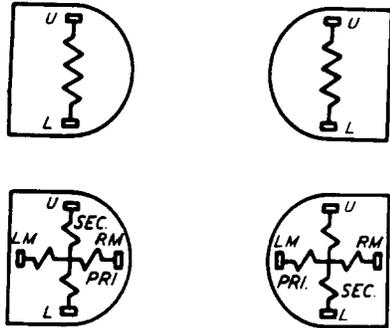

FIG. 25 - WINDING TERMINAL ARRANGEMENT AS VIEWED FROM THE REAR (TERMINAL SIDE) - 221, 222, 223 AND 224 TYPE AND SIMILAR A.E. CO. RELAYS
2.20 The spring numbering for these relays is the same as that covered in Section 005-120-103. The winding terminal numbering used prior to 1931 is as illustrated in Fig. 25. The abbreviation WDG